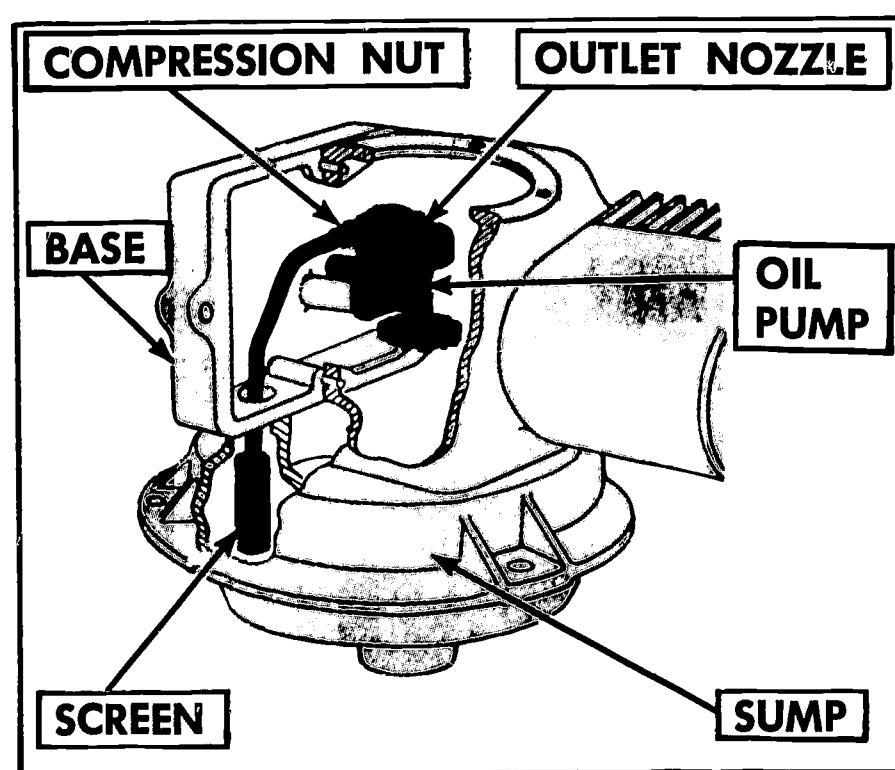

FIGURE 278. Gear-type oil pump.
a. If your oil-pump unit is the **removable gear type** (Figure 278), proceed as follows: